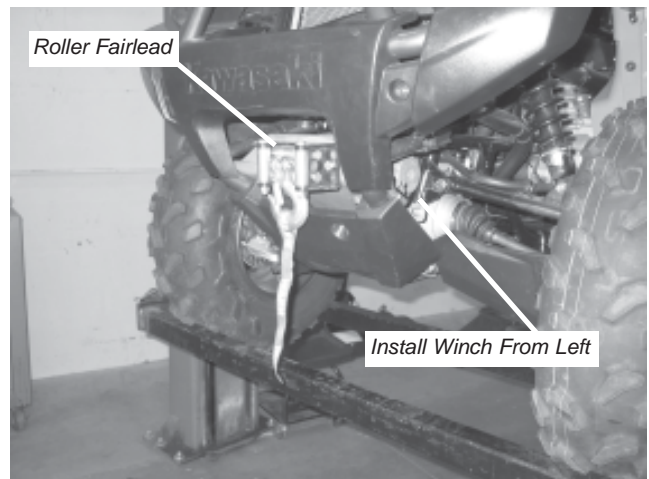

Figure 9 Install Winch and Roller Fairlead
4. Install winch from the left side of the vehicle, as sitting on the vehicle, Figure 9. Fasten winch with hardware supplied with the winch. Mount the winch so that the motor faces the right side of the vehicle. Tighten the bolts to a recommended torque of 17 N-m (12 ft-lb).
Also attach roller fairlead to the winch mounting plate, Figure 9, using two hardware provided in the winch kit. See instructions included in winch kit for recommended torque.